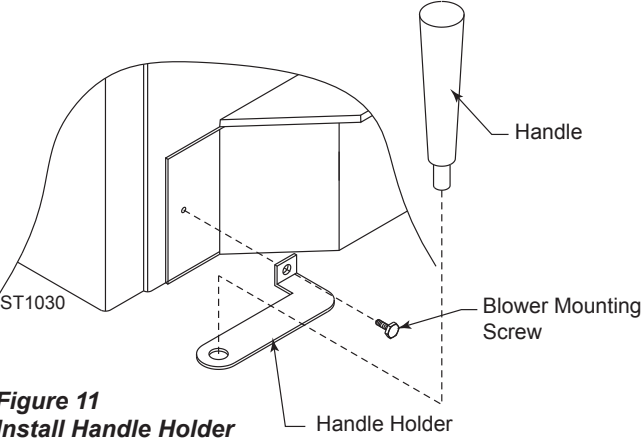

Figure 11
3. Install handle holder on left side of insert using blower mounting screw. (Fig. 11)